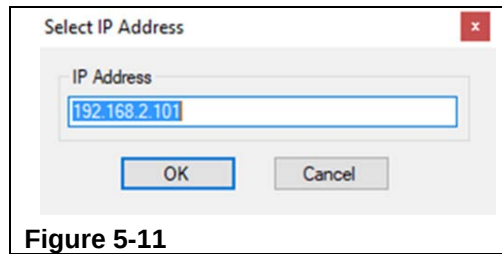

Figure 5-11
- Step 3. Input the IP Address into the selection box that appears. In most cases the IP Address will be: 192.168.2.101 (Refer to Figure 5-11)